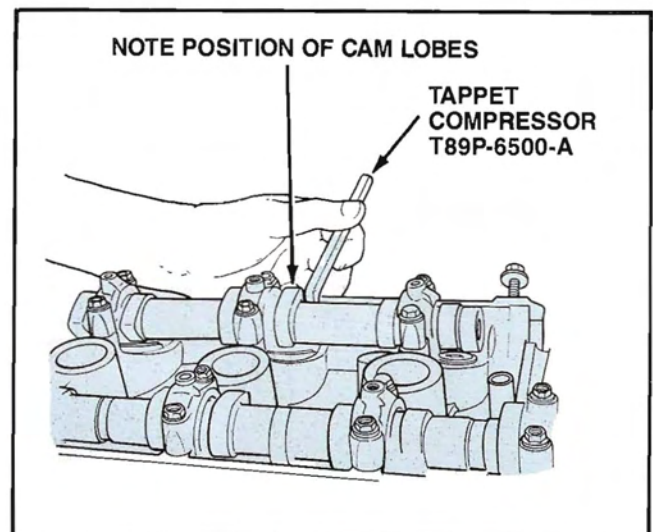

Figure 139. Tappet Compressor
3. Insert Tappet Compressor T89P-6500-A from the spark plug side and press down the lifter (Fig. 139).